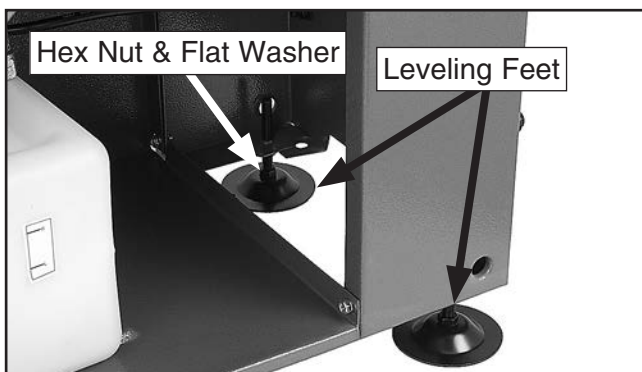

Figure 12. Leveling feet attached.
- Attach threaded portion of leveling feet with flat washer and hex nut into the base of cabinet, as shown in **Figure 12**.